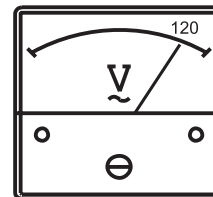

Figure 49. Voltmeter
6. The generator's **AC voltmeter** (Figure 49) will display the generator's output in **VOLTS**.